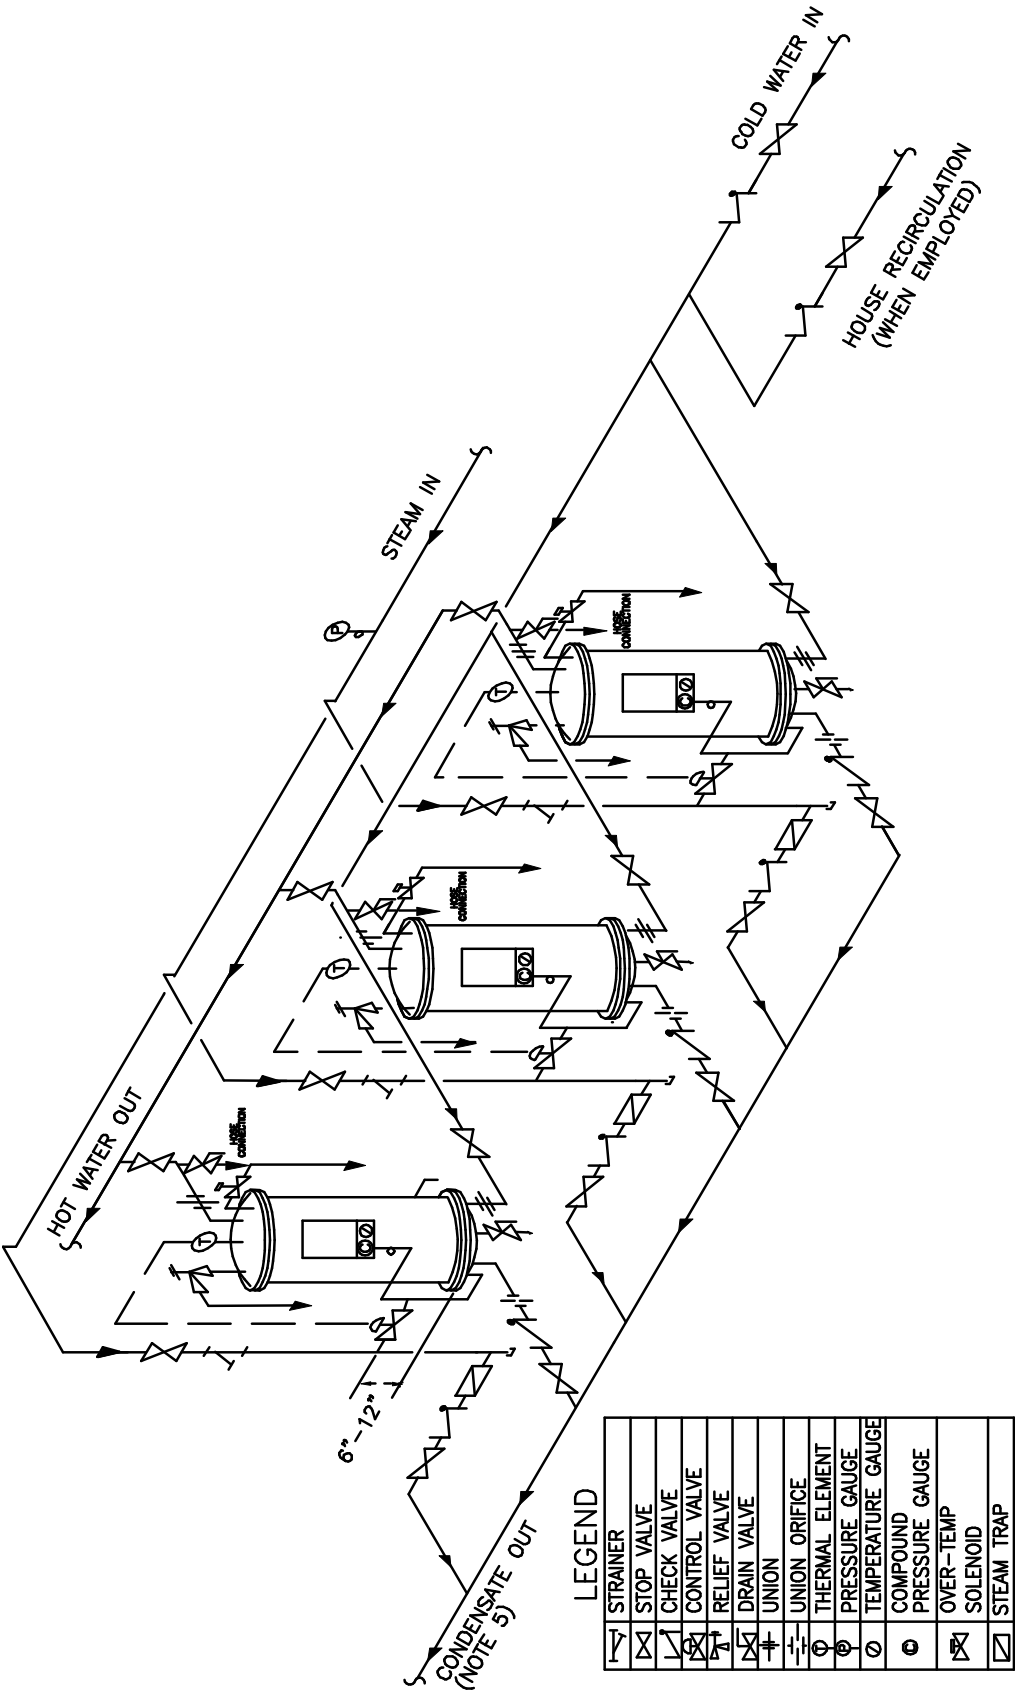

Figure 4 – Piping Connections for Parallel Heaters
- b) Parallel Heaters – Figure 4